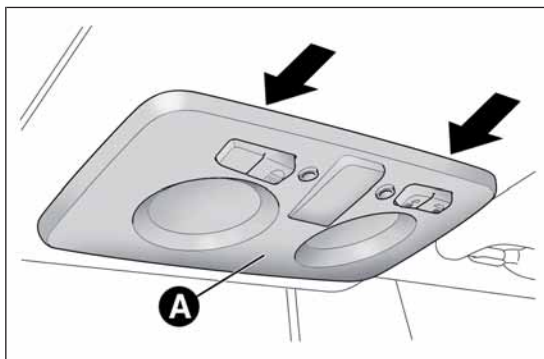
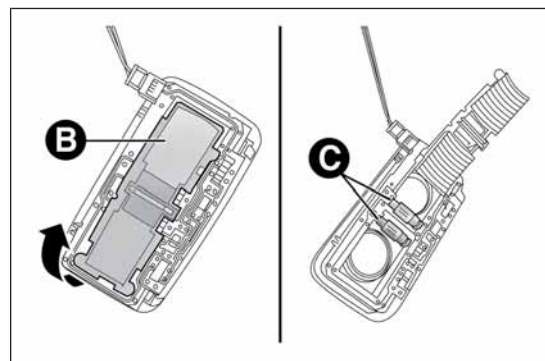

fig. 141
fig. 142
- ☐ remove the roof light A fig. 141 working at the points indicated by the arrows;
- ☐ open the flap B fig. 142 and replace the bulbs C releasing them from the side contacts. Make sure that the new bulbs are correctly secured between the contacts;
- ☐ reclose the flap B fig. 142 and fix the roof light A fig. 141 in its housing making sure that it is locked.